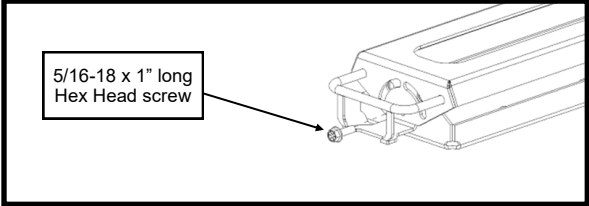

Fig. 1 (Remove 2 bolts)
1. See service parts page for names of items. Remove the sub-assembly of the ROPS plate and striker plate from the latching frame by unlatching and lifting out. Per fig. 1, separate the ROPS plate from the striker plate by removing and discarding one screw from each side of the sub-assembly.